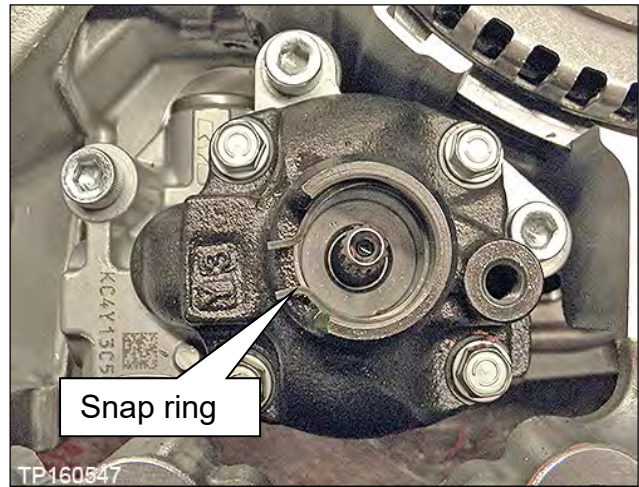

Figure 64
44. Torque the three (3) Allen®-head bolts and fitting bolt.
45. Install the new snap ring (Figure 64).